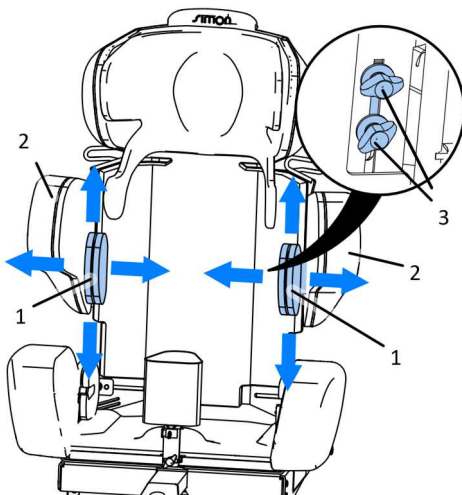

Fig. 18
7.3 Lateral support adjustment Fig. 18